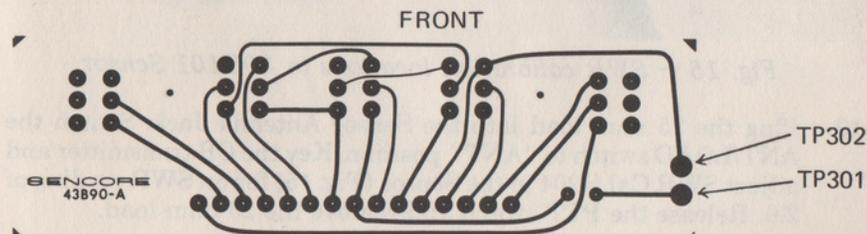

Fig. 14 — Voltage test point locations on foil side of Function Switch P.C. Board
4. With the multimeter, measure the voltage at test point TP301 on the Function Switch P.C. Board (See Fig. 14). Adjust V_r Bias R103 for -5 mV at this test point. Likewise, adjust V_f Bias R110 for -5 mV at Test Point TP302.